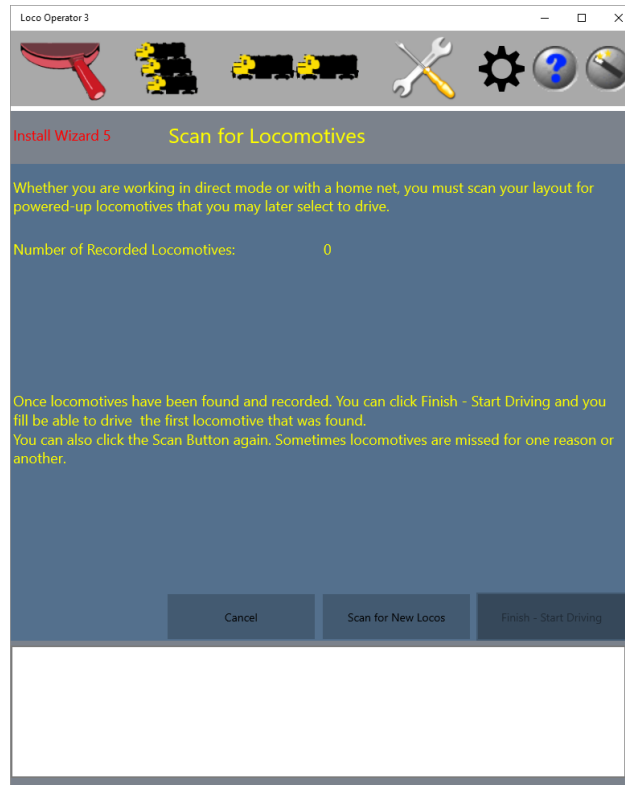

Figure 15 Install Wizard Page 5. Scan for new Locomotives.
- (7) Now you see Install Wizard 5 as in Figure 15. By this time, as a result of the install process, your Wi-Fi Router should have allocated IP addresses to your locomotives. Click the Scan for New Locos button, check the range and click Continue on the pop-up. Your computer will connect to your Home Net and test each IP Address in the range to find locomotives. You will see each IP address being tested in the progress text area on the screen.